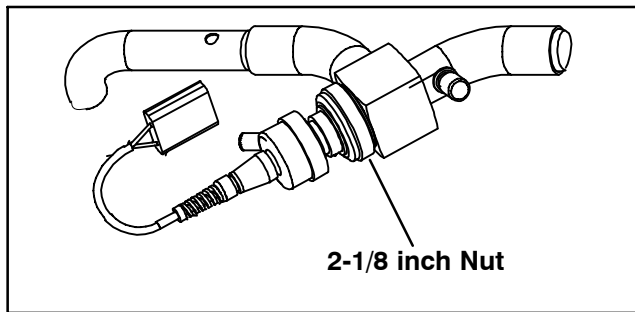

Figure 6-23 Suction Modulation Valve (SMV)
1. Stop the unit, disconnect the 4-pin connector from the stepper module to the valve (see Figure 6-23) and attach the SMA-12 stepper drive to the connector going to the valve.
- b. Remove SMV powerhead by loosening the 2-1/8 inch diameter nut (see Figure 6-23) to relieve any pressure and then sliding the powerhead out.